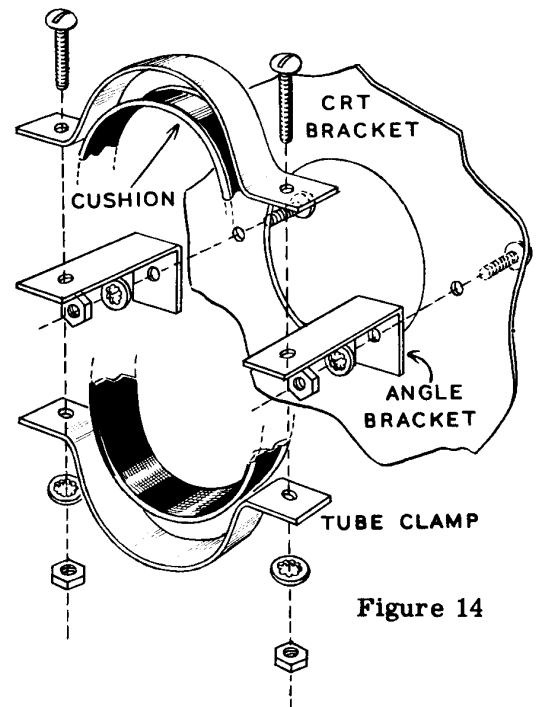

Figure 14
- () Refer to the markings near each socket on the board and install each of the remaining 9-pin miniature tubes in their proper places. There should be (1) 12AT7, (1) 12AX7 and (3) 12AU7.
- () Refer to Figure 14 and clamp the CR tube to the angle brackets mounted on the CRT support bracket. Don't forget the rubber cushion strip. The 6-32 x 1" screws are passed through the top tube clamp, the angle bracket and then the bottom tube clamp. Secure with #6 lock-washers and 6-32 nuts but do not tighten yet.